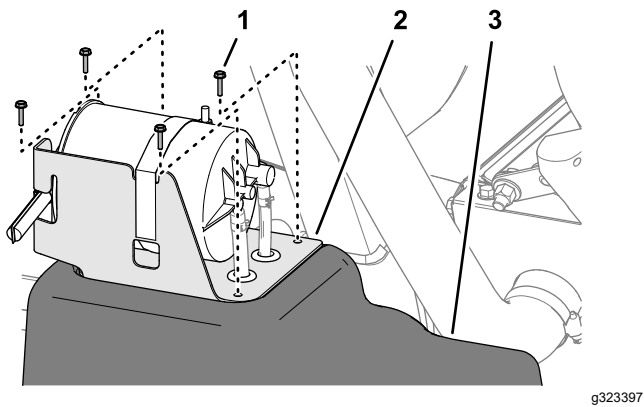

Figure 80
5. Align the holes in the carbon-canister bracket with the holes in the fuel tank (Figure 80).
6. Assemble the bracket to the tank (Figure 80) with the 4 screws (#10 x 3/4 inch).